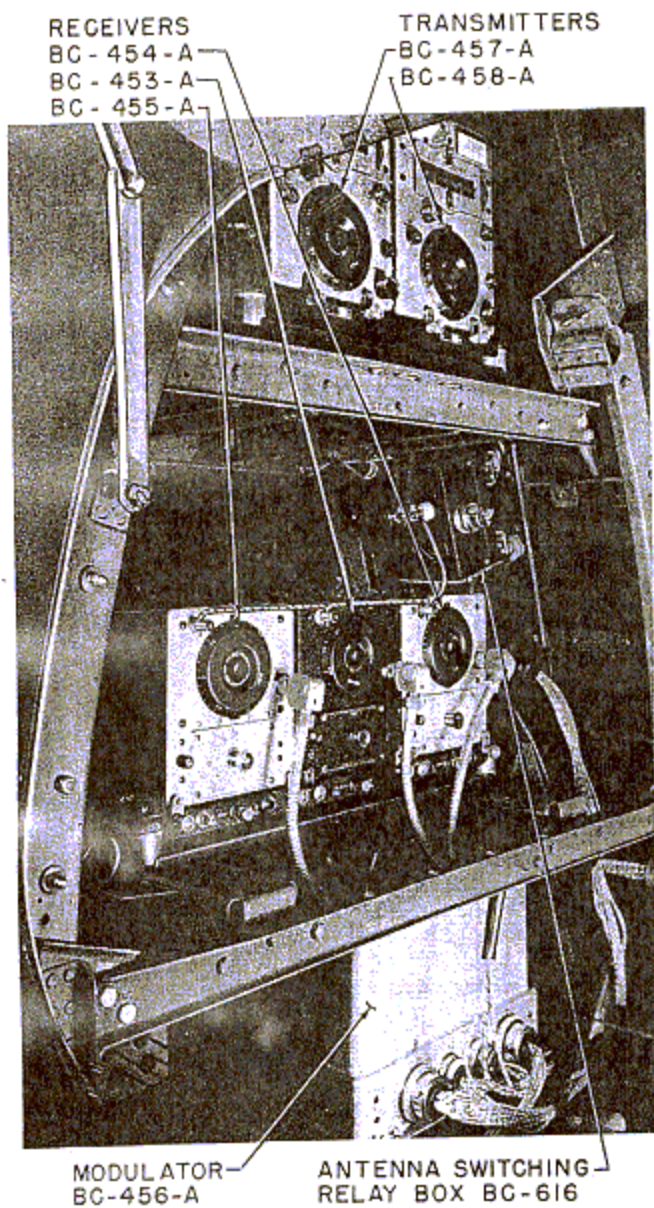

Figure 267—SCR-274 Radio
(2) SCR-274N RADIO. (See figures 267 and 268.)
b. TRANSMITTERS.—The BC-457-A and BC-458-A transmitters are mounted on the uppermost of the three shelves directly forward of the fuselage access door. (See figure 267.) The two transmitters cover the following frequency ranges: